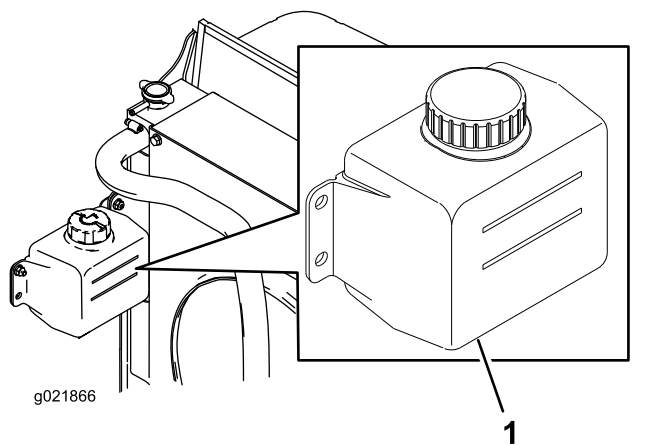

Figure 81
1. Check the level of coolant in the expansion tank (Figure 81).